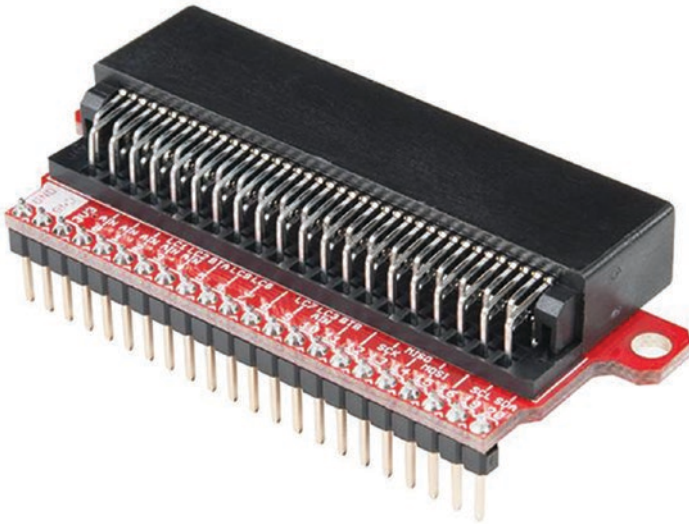

Figure 1-5. SparkFun micro:bit breakout (image courtesy of SparkFun Electronics: <https://www.sparkfun.com/products/13989>)
3. *Edge connector:* The total of 25 pins on the edge connector allow you to connect various sensors and actuators, access I/O lines, and connect to power and ground. They include an LED matrix, two pushbuttons, an I2C bus, and a SPI. The 0, 1, 2, 3V, and GND pins are exposed as ring connectors, which allow you to easily connect crocodile or banana clips. The 0, 1, and 2 pins are specialized for capacitive sensing. All the pins can be accessed with the Kitronik edge connector breakout board (see Figure 1-4) or the SparkFun micro:bit breakout board (see Figure 1-5).